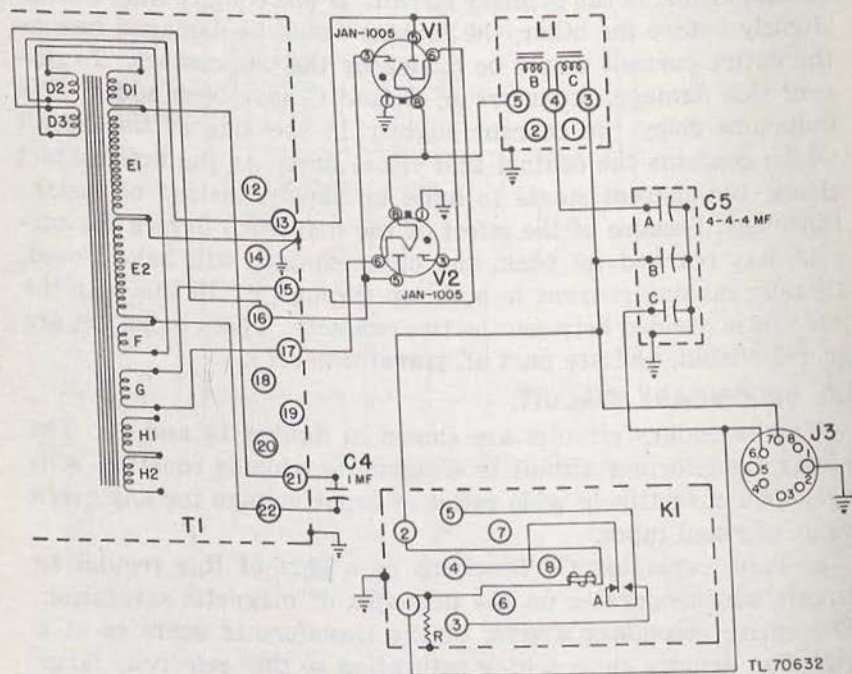
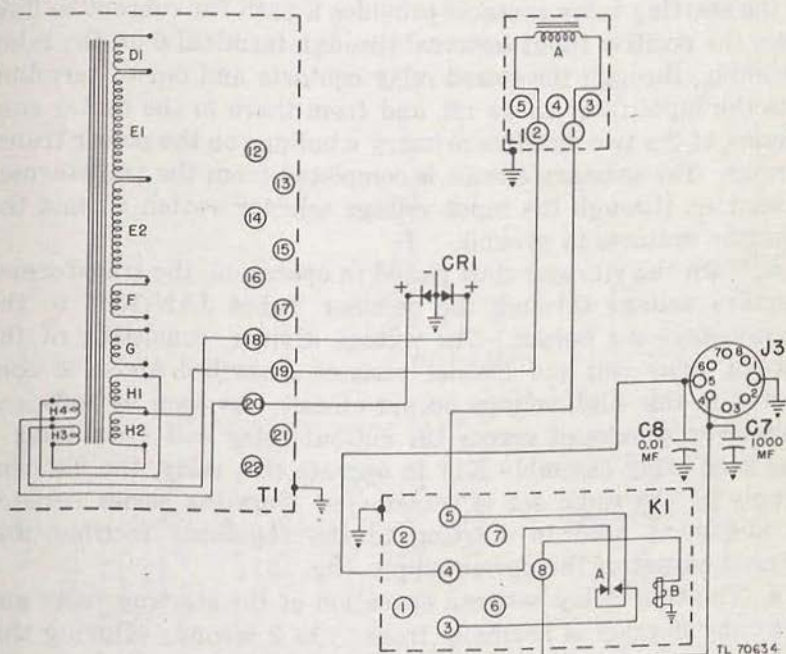

Figure 13. Functional diagram of high-voltage output circuit.
Figure 14. Functional diagram of radio filament supply circuit
The secondary circuits are shown in figures 13 and 14. The power transformer circuit is designed to provide constant voltages over a relatively wide range of input voltage for any given value of rated input.
b. Windings D2 and D3 (fig. 13) are bucking coils on the high-voltage secondary; windings H3 and H4 (fig. 14) are the low-voltage filament bucking coils. Bucking coils are connected in series with secondary windings which require close regulation. They are designed to provide approximately 20 percent of the voltage through the associated secondaries and are so connected as to oppose the instantaneous secondary voltage. Variations in primary magnetization, due to changes in applied input voltage or to changes in load current, affect the voltage in these windings and hence the degree of bucking in such a manner as to provide substantially constant output voltage. Winding G is the filament winding for tubes V1 and V2.
d. Windings H1 and H2 (fig. 14) of transformer T1 are the filament voltage supply windings for the radio set. The low voltage is grounded through rectifier CR1. The positive side of the filament voltage passes through audio choke L1A, through cut-out relay K1A, and on to connector J3. Capacitor C7 is an audio ripple filter for the filament circuit. Capacitor C8 acts as an r-f filter.